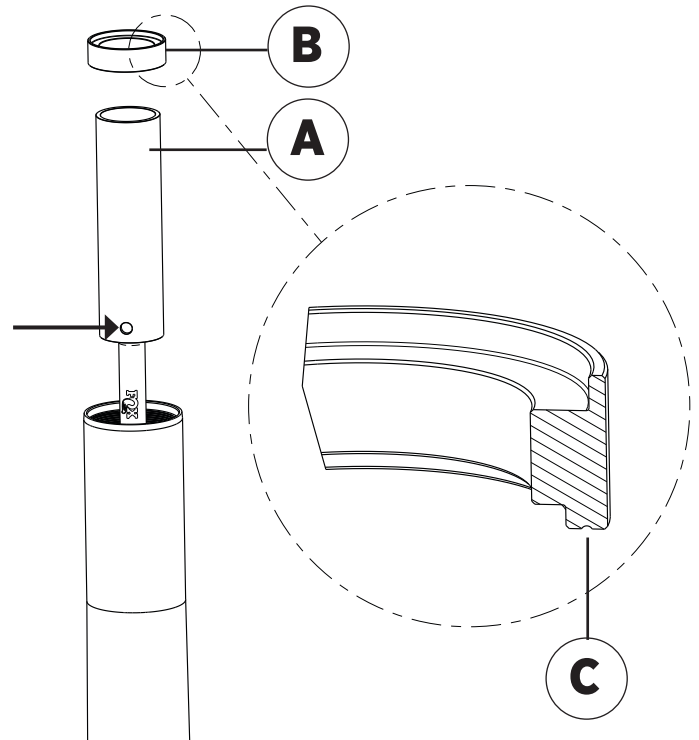

Fig. 11: Install preload spacer and retaining ring.
8. Install the preload spacers (Fig. 11A) with the holes oriented downward (Fig. 11 arrow), then install the retaining ring (Fig. 11B). Make sure the groove on the spring retainer faces downward, toward the preload spacer (Fig. 11C).